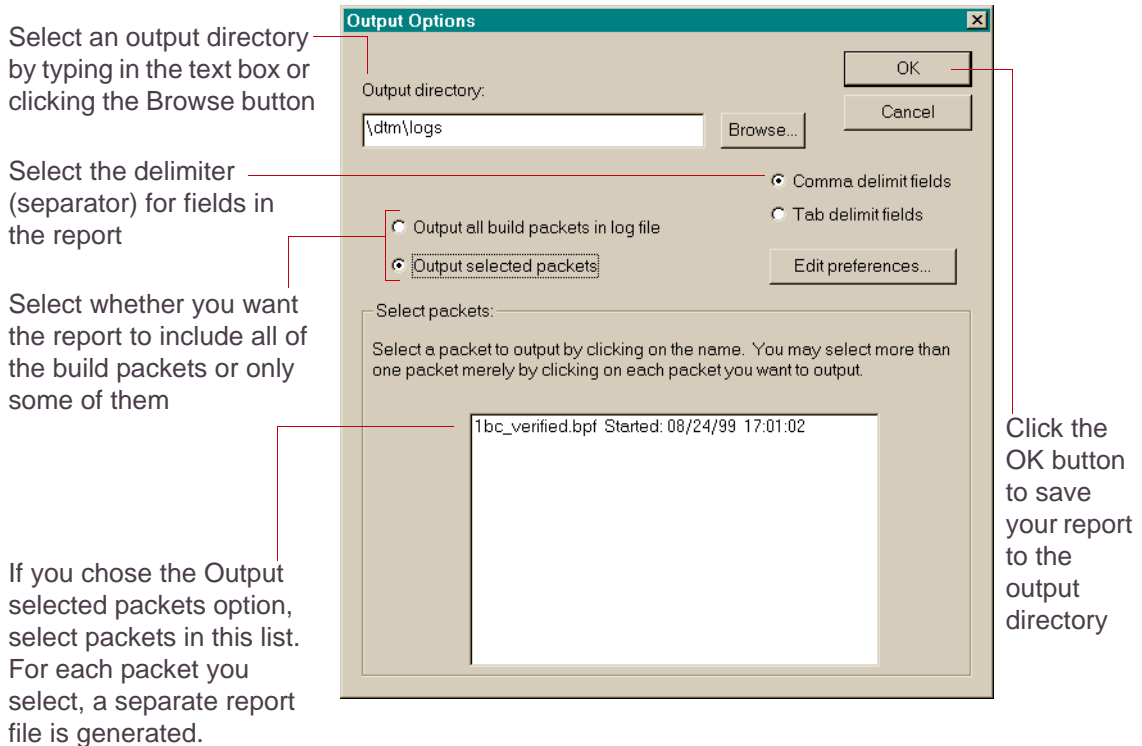

Figure 28. Output Options Dialog Box
6. Select the output options you want, as shown in Figure 28.